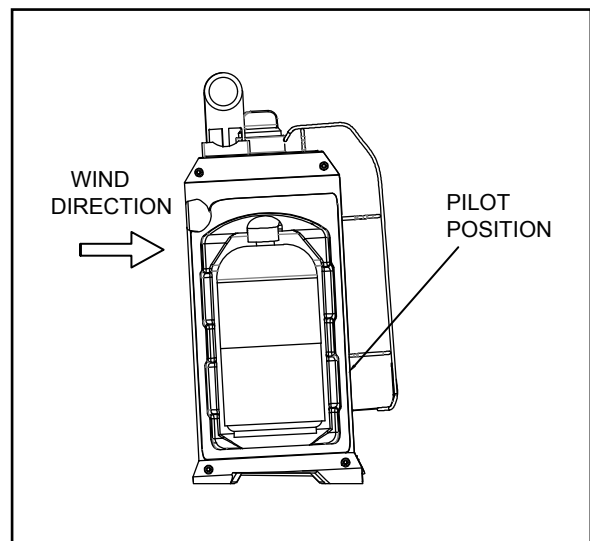

Fig. 3 - Lighting in Windy Areas
1. Position the heater such that the Pilot is opposite the direction that the wind is coming from. Fig. 3